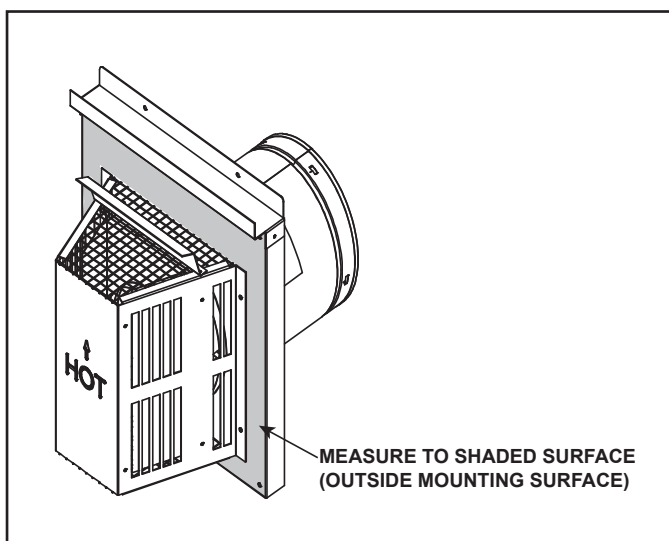

Figure 5.15 Measure to Outside Mounting Surface
- Horizontal terminations are measured to the outside mounting surface (flange of termination cap) (see Figure 5.15).